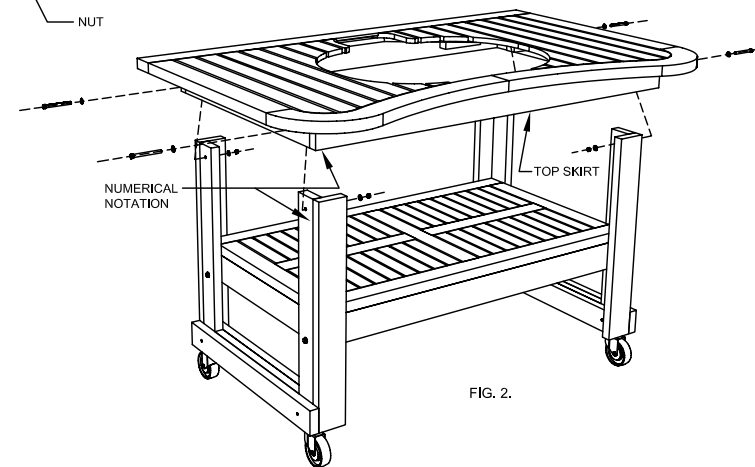

FIG. 2
4.) DROP THE TOP DOWN OVER THE LEGS, (FIG. 2.) WITH THE LEGS FITTING UP INSIDE OF THE TOP SKIRT. LINE UP THE BOLT HOLES IN THE SIDES OF THE TOP SKIRT WITH THE BOLT HOLES IN THE TOPS OF THE SIDE ASSEMBLIES AND BOLT PER METHOD IN STEP ONE.
5.) USING WRENCH GO BACK AND TIGHTEN ALL (8) BOLTS